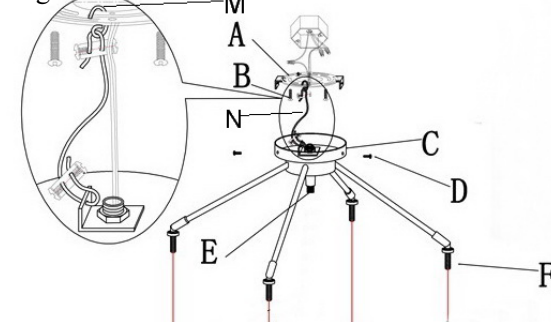

Fig. 3
CONNECTING THE WIRES (Fig. 3)
9. Connect the electrical wires as shown in Fig. 3, making sure that all wire connectors are secured. If your junction box has a ground wire (green or bare copper), connect fixture's ground wire to it. Otherwise, connect fixture's ground wire directly to mounting plate (A) using green screw provided.